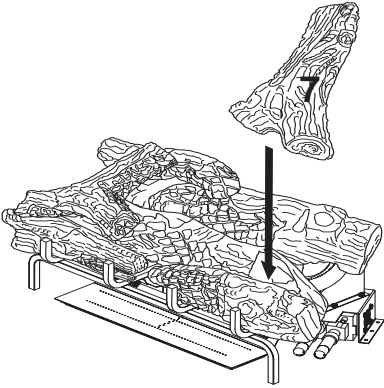

Figure 34- Installing Log # 7
7. Place the right crossover log (#7) on top of the middle log and rear log as shown in Figure 34, page 21. Match the round peg on the top of the rear log with the round hole on the bottom of the right crossover log and square peg on the top of the middle log with the square hole on the bottom of the right crossover log.